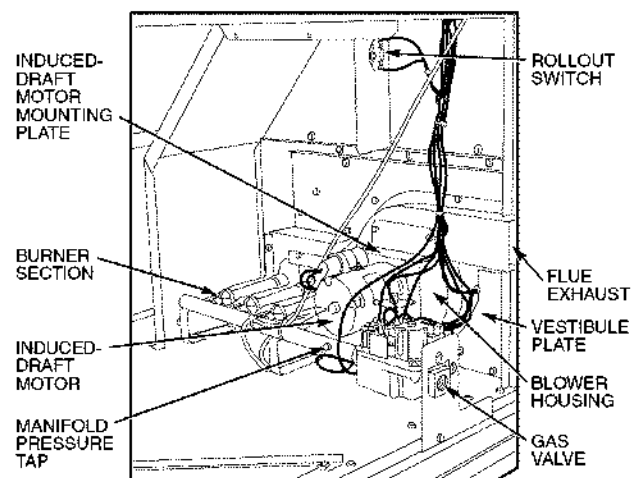

Fig. 52 — Burner Section Details
2. Remove the 7 screws that attach induced-draft motor housing to vestibule plate (Fig. 52).
7. Remove the 2 screws that attach the burner rack to the vestibule plate (Fig. 52).